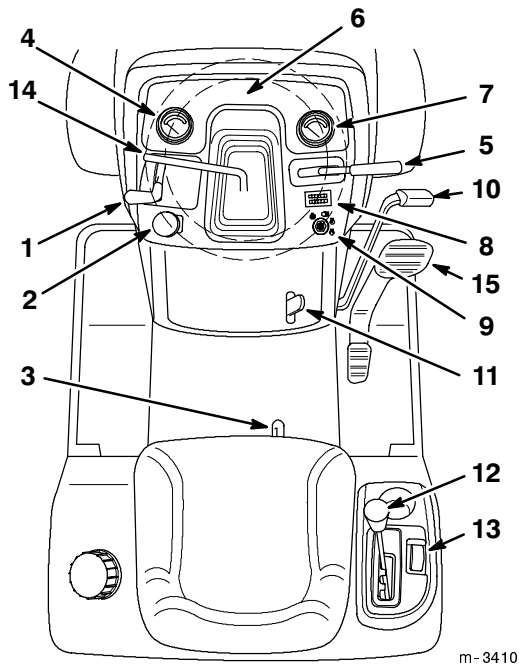

Figure 12
Become familiar with all the controls (Fig. 12) before you start the engine and operate the machine.
1. Push the brake pedal (Fig. 12) down and hold it in the depressed position.
2. Lift the parking brake lever (Fig. 12) up and gradually take your foot off the brake pedal. The brake pedal should stay in the depressed (locked) position.
1. Push down on the brake pedal (Fig. 12). The parking brake lever should release.